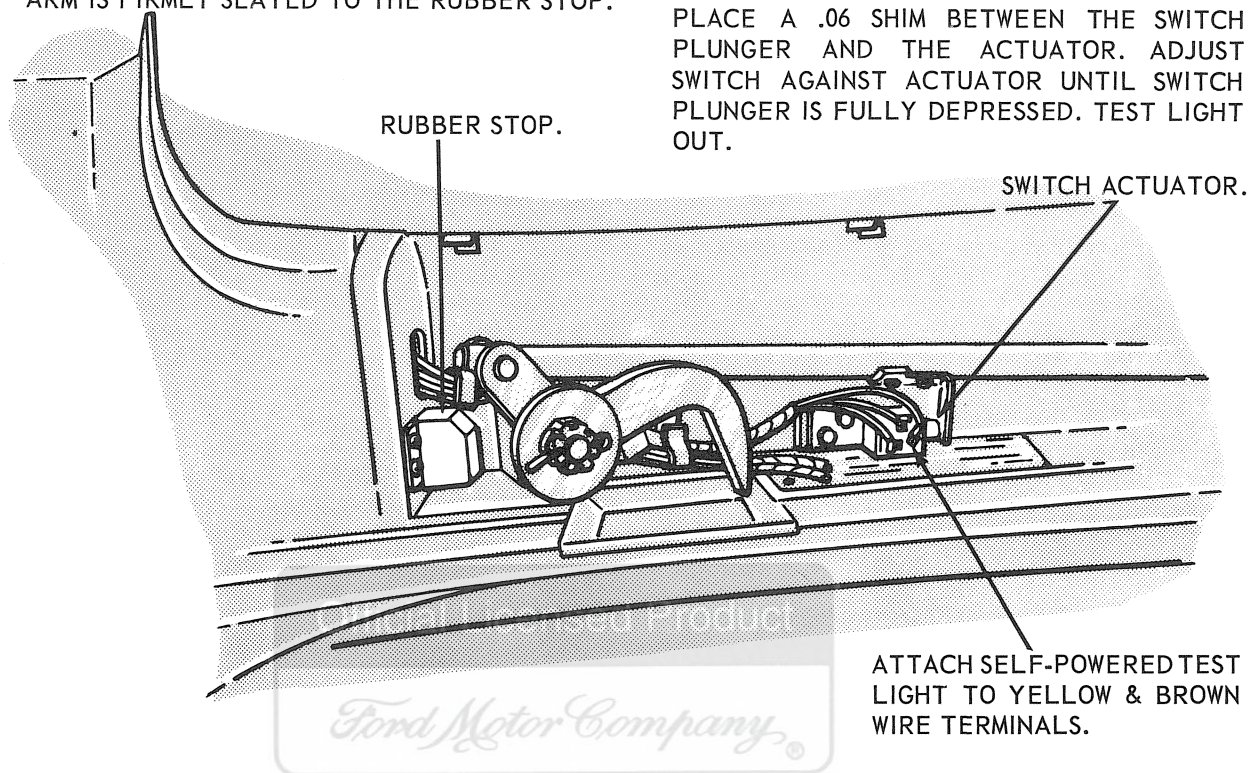

FIG. 2-27—Top Unlock Limit Switch Adjustment
10. Top Unlock Limit Switch, Figure 2-27.